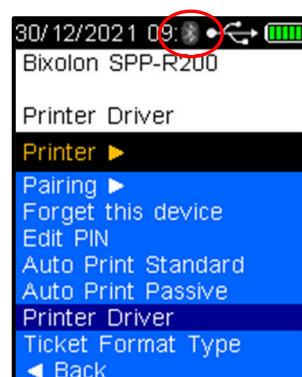

Figure 44 - Bluetooth Icon on Screen
- When Bluetooth is enabled, a Bluetooth icon is visible on the screen at all times (Refer to Figure 44).